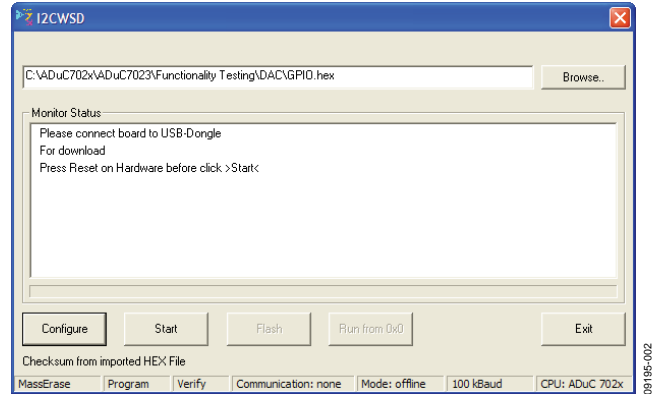

Figure 2. I2CWSD Dialog Box
2. To connect to the Microcontroller, open the I2CWSD application from the Windows® Start menu (see Figure 2). This may also be downloaded from the ADuC7023 product page on the Analog Devices, Inc., website. This I2CWSD is different from the generic I2CWSD application that interfaces to the USB-I2C/LIN-CONVZ dongle.